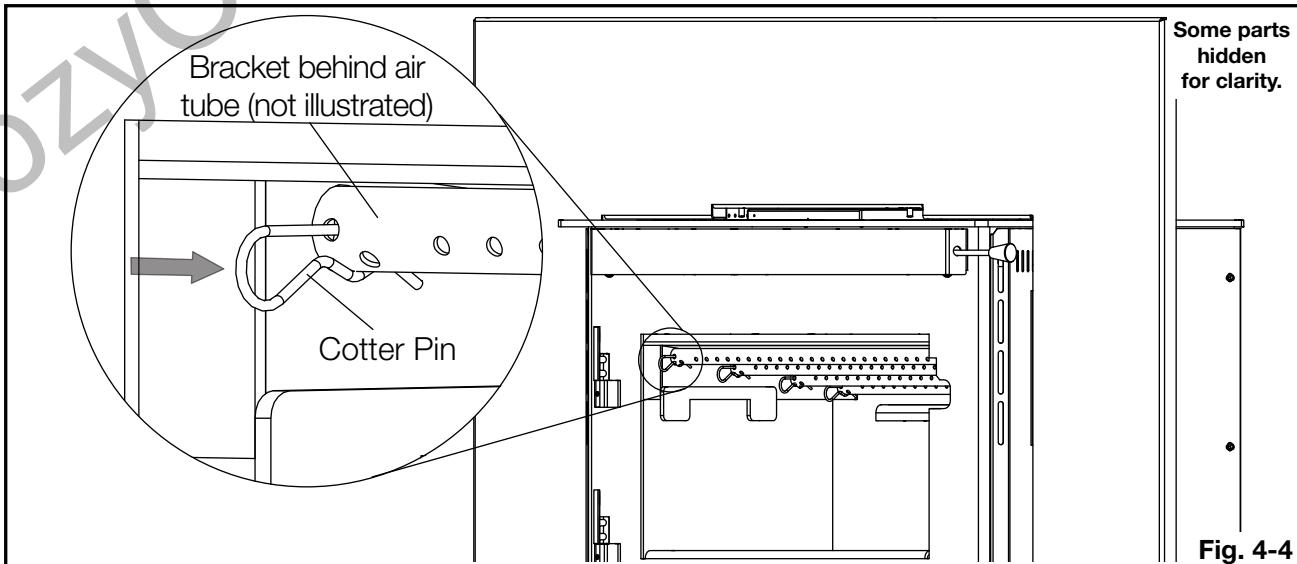

Fig. 4-4
3. Align the hole in the secondary air tube with the hole in the bracket inside the left side of the firebox, and then insert a cotter pin (supplied) (**Fig. 4-4**).